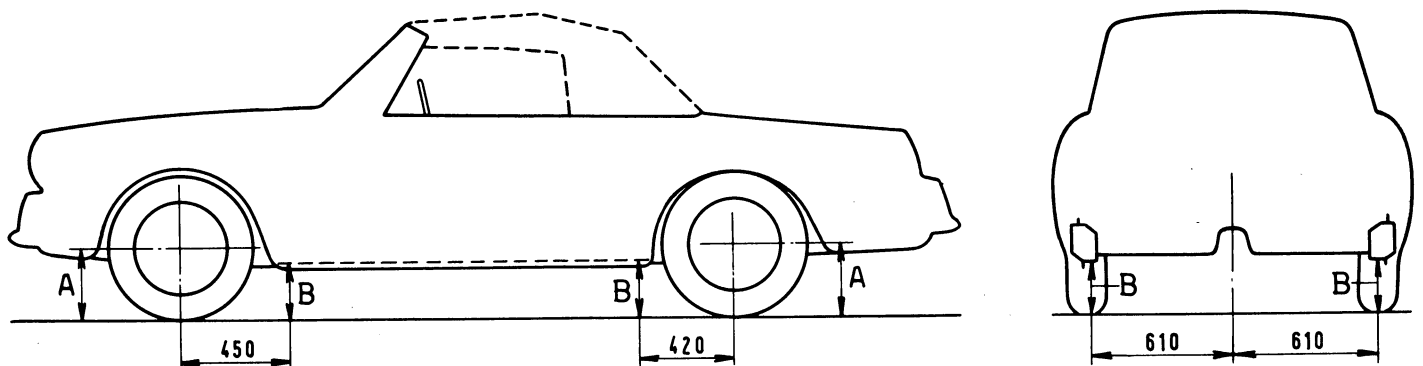

Fig. 152. - Trim diagram of vehicle under « static load » for checking front end geometry.
- distance (A, fig. 152) of wheel centers from ground is:
- distance (B, fig. 152) of body floor side members from ground at four points shown in fig. 152 is:
- with car under « static load » (fig. 152): .0394" to .1181" (1 to 3 mm).